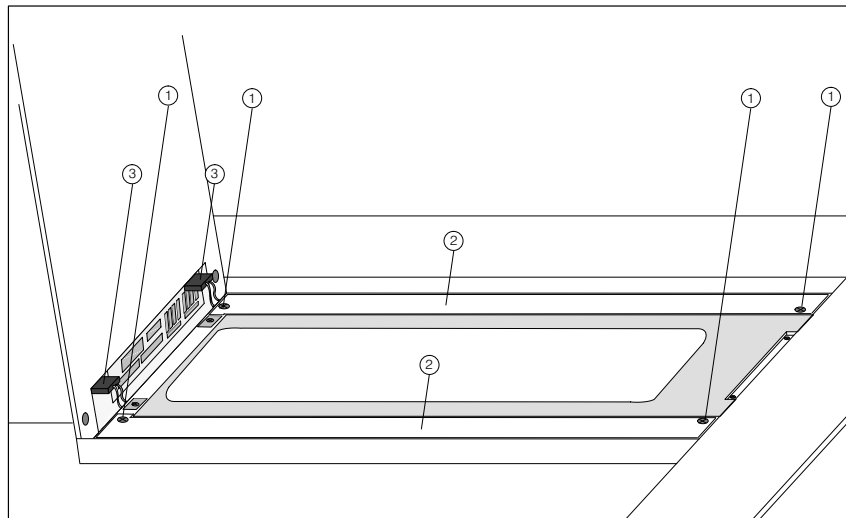

Figure 6-4 Undo screws of tube covers
1. Release the screws marked in Figure 6-4 with the number ①.
2. Remove covers ②.
3. With reference to Figure 6-4, detach the connectors ③.